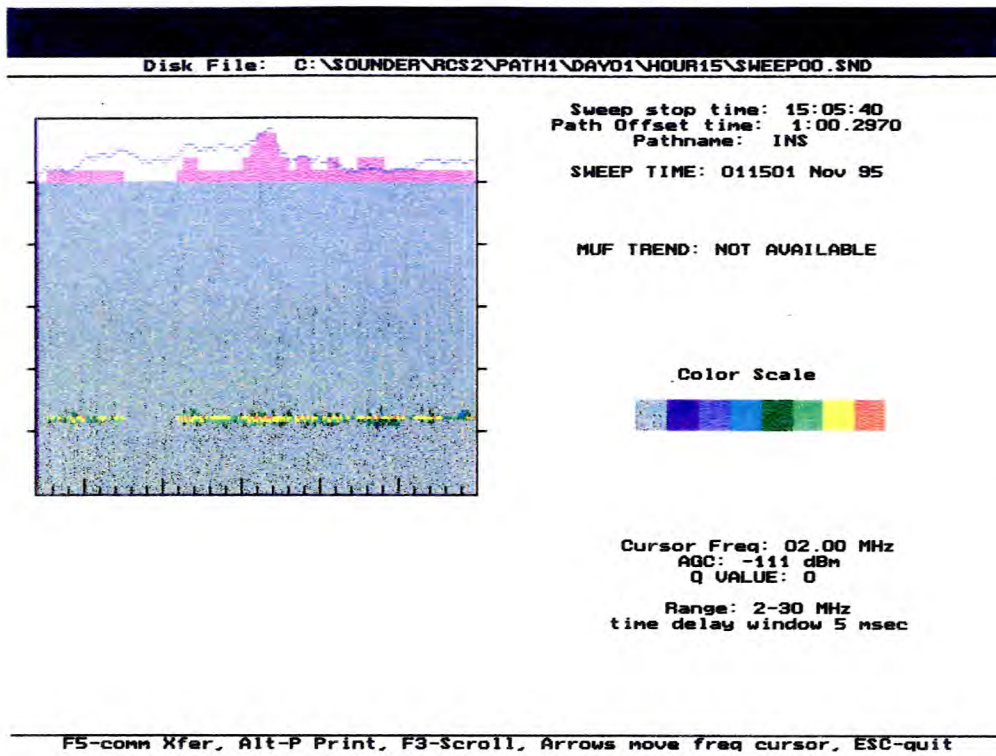

Fig 43
4.6 For CHIRP RECORD, select CHIRP RECORD, select the path number and select VIEW. A display similar to Fig 43 is obtained ("Chirp Record Display").